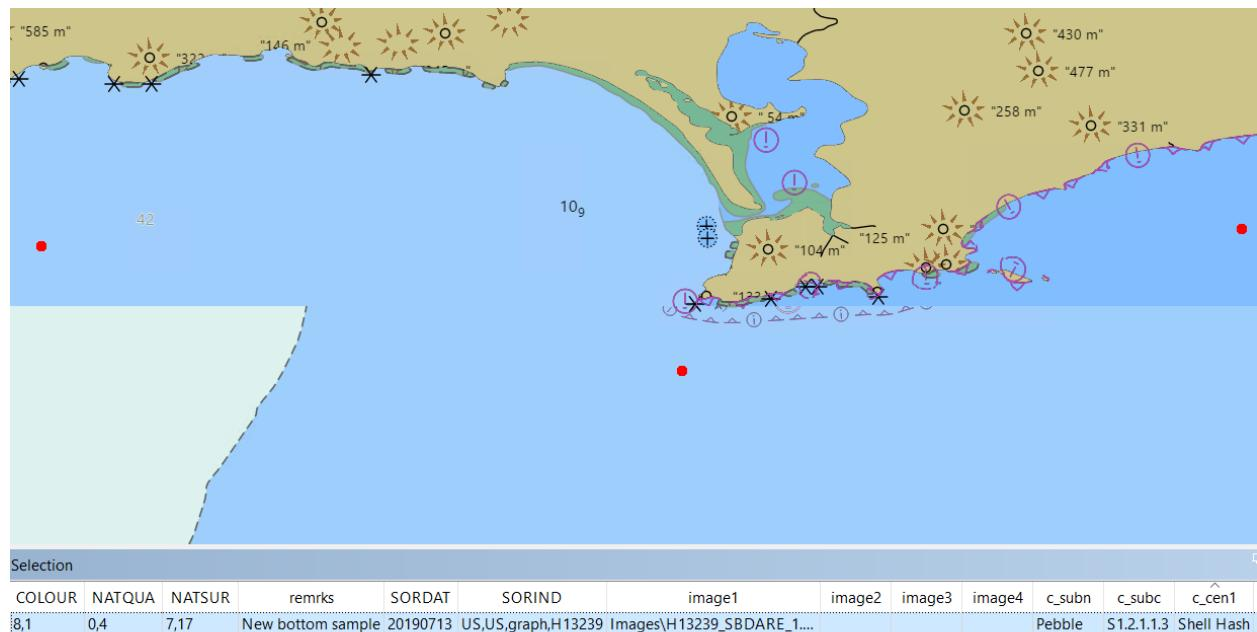

Fig. 2.58: Bottom samples shown as red circles with an ENC in the background.
**SBDARE export v5** produces an ASCII file or a zip file, containing a shapefile with bottom sample locations and an images folder with georeferenced images (Fig. 2.58), for NCEI archival. Attributes includes NOAA S-57 attribution and CMECS translations.